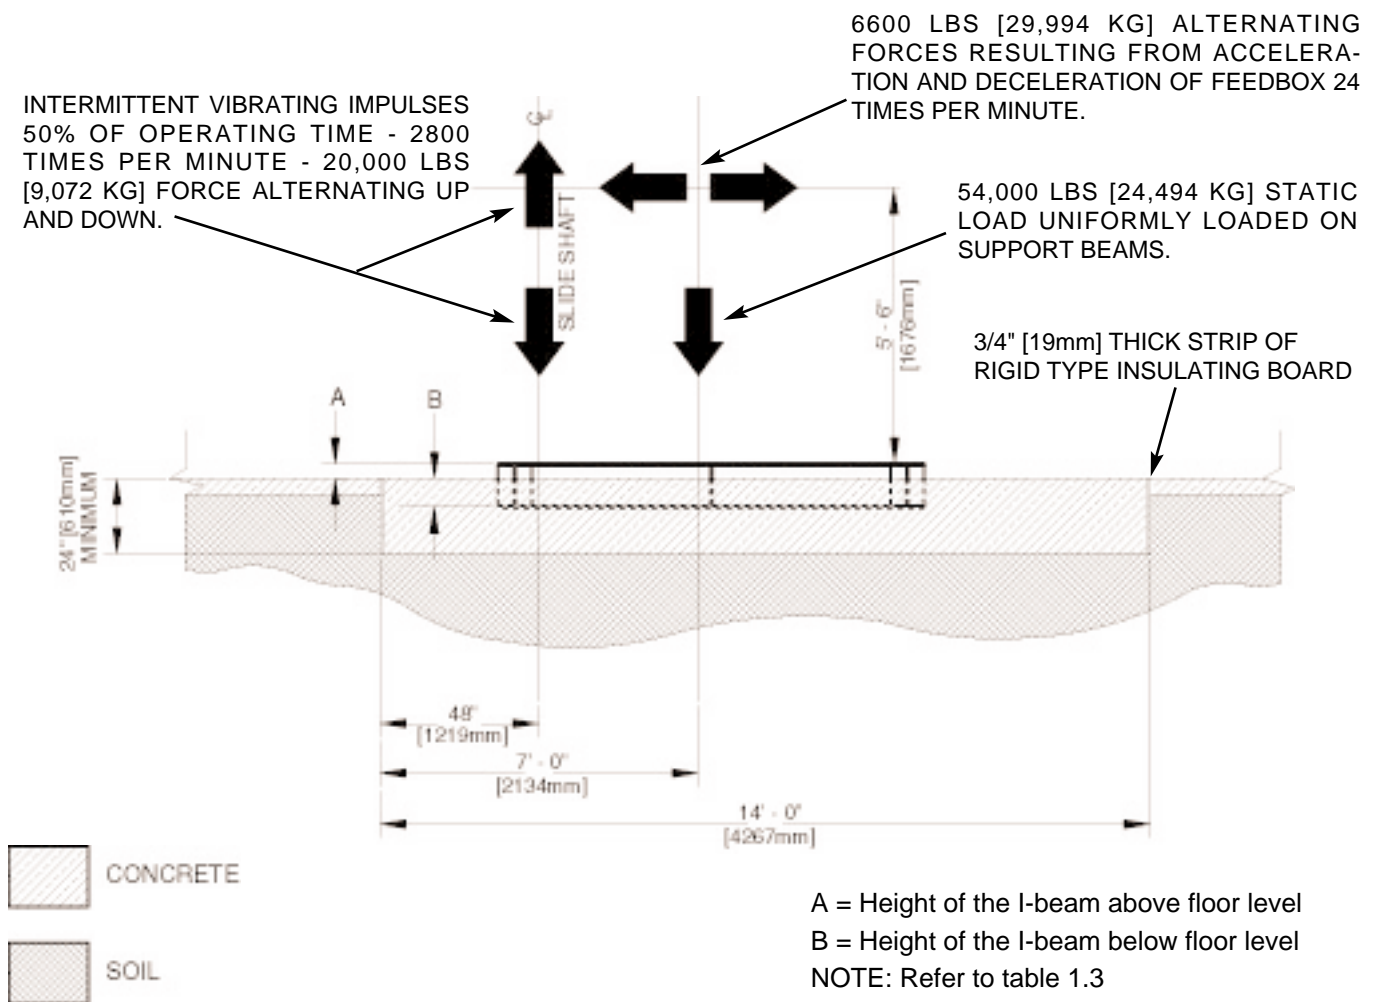

Figure 1.1 SIDE ELEVATION.
1. The framework should be prepared according to specifications presented in figure 1.1, 1.2 and 1.3.
3. The length, width and thickness of the foundation specified in figures 1.1 and 1.2 represent minimum dimensions. The ULTRAPAC II foundation can be increased in length, width or thickness to accommodate existing soil conditions.